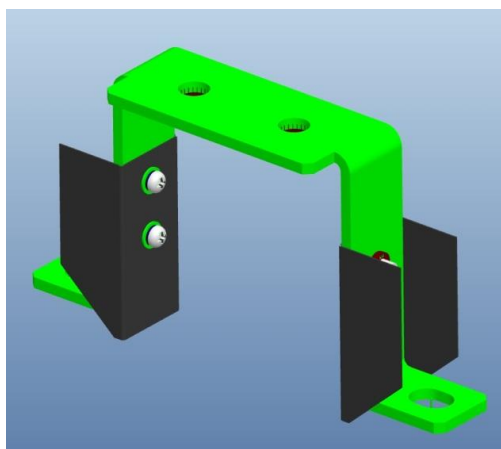

Figure 6
5、 Pre-treat copper bar and insulating paper, install BCN 3-phase copper strip with M3x10 cross trough disc head combination screws and insulating paper according to Figure 6,7 and 8 respectively;